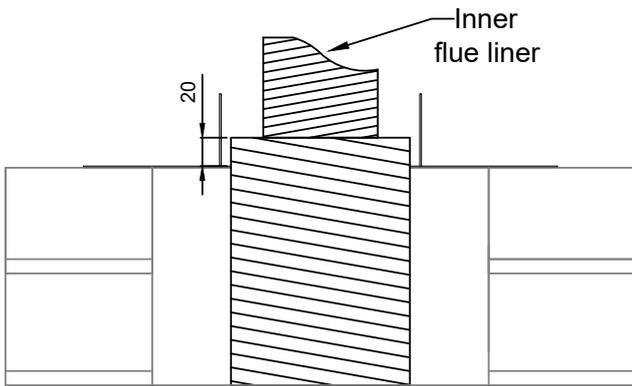

Figure 4-10: Outer flue liner and top plate in final position
6. Cut off any excess length of the outer flexible liner, leaving approximately 20mm (at least 2 corrugations) above the top plate. Refer to Figure 4-10.